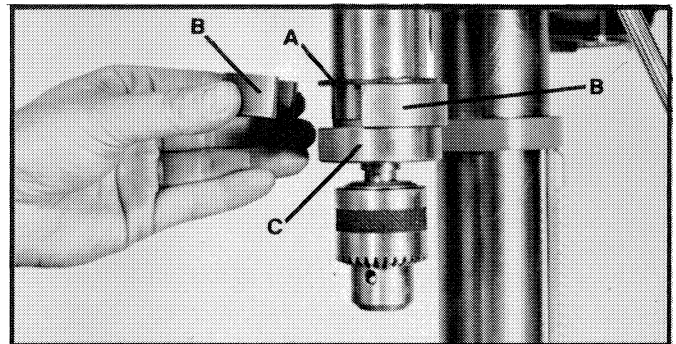

Fig. 2
2. Slide rubber ring (A) Fig. 2, up on the quill, and depending on the size of the drill press, assemble the smallest or intermediate size split-ring bushings (B) supplied, around the quill between rubber ring (A) and stop collar (C). **NOTE:** Make certain the slot of the split-ring bushing is pointing toward the front of the machine.